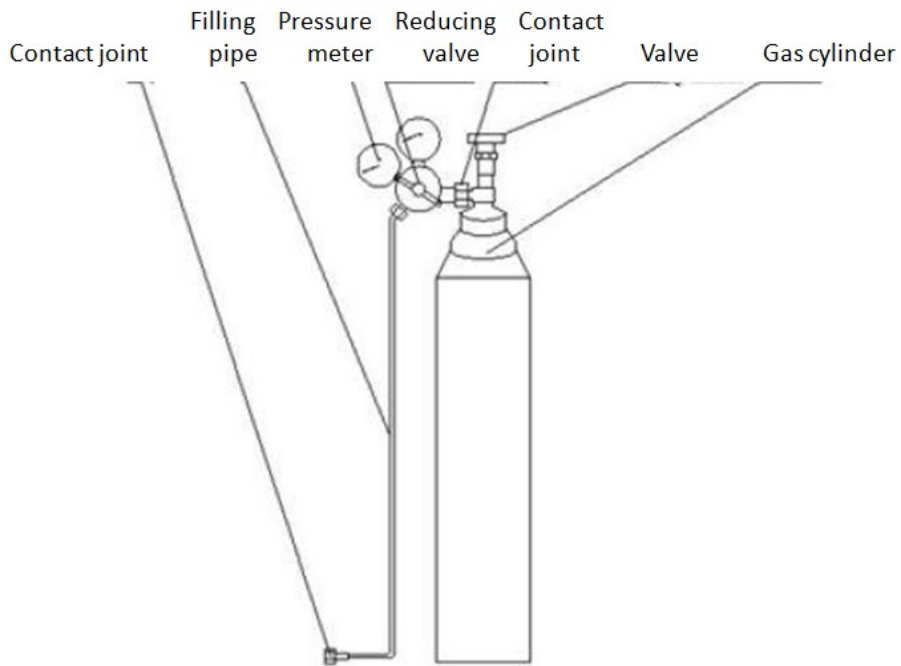

Fig. 3 Schematic diagram of filling device
b) Unscrew the cylinder protective cap first, and then connect the filling device end with the reducing valve to the contact joint of cylinder. See fig.3;